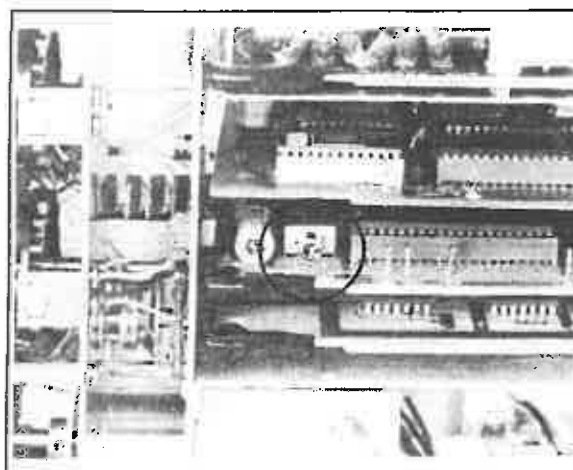

Figure 5-1.
- (3) Select the range to be calibrated, and set the setting dials to the rated output. Set the output divider to  $n/m = 1$ .
- (4) Connect a digital voltmeter to the output terminals. For current range calibration, pass current through a standard resistor and measure the voltage drop.
- (5) Turn the OUTPUT switch ON, and turn the calibration switch (see Figure 5-1) to CAL. Adjust the setting dials so that the digital voltmeter indicates the rated output value.